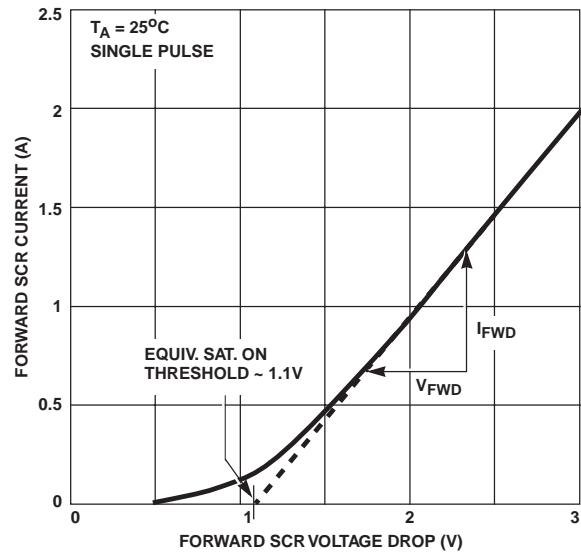

FIGURE 3. HIGH CURRENT SCR FORWARD VOLTAGE DROP CURVE
3. Refer to the Figure 3 graph for definitions of equivalent "SCR ON Threshold" and "SCR ON Resistance." These characteristics are given here for thumb-rule information to determine peak current and dissipation under EOS conditions.